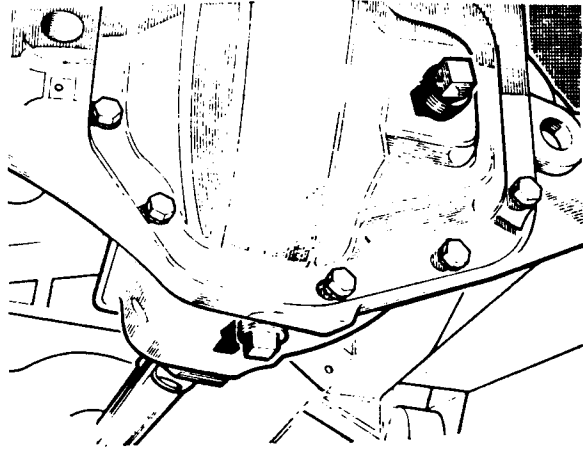

Fig J2.8
- (9) Refer to Fig J2.8. Replenish the differential lubricating oil, capacity 2,5 litres, using oil to specification SAE 90 EP. After the initial axle run, check the oil level and replenish as necessary to the filler/level plug hole.